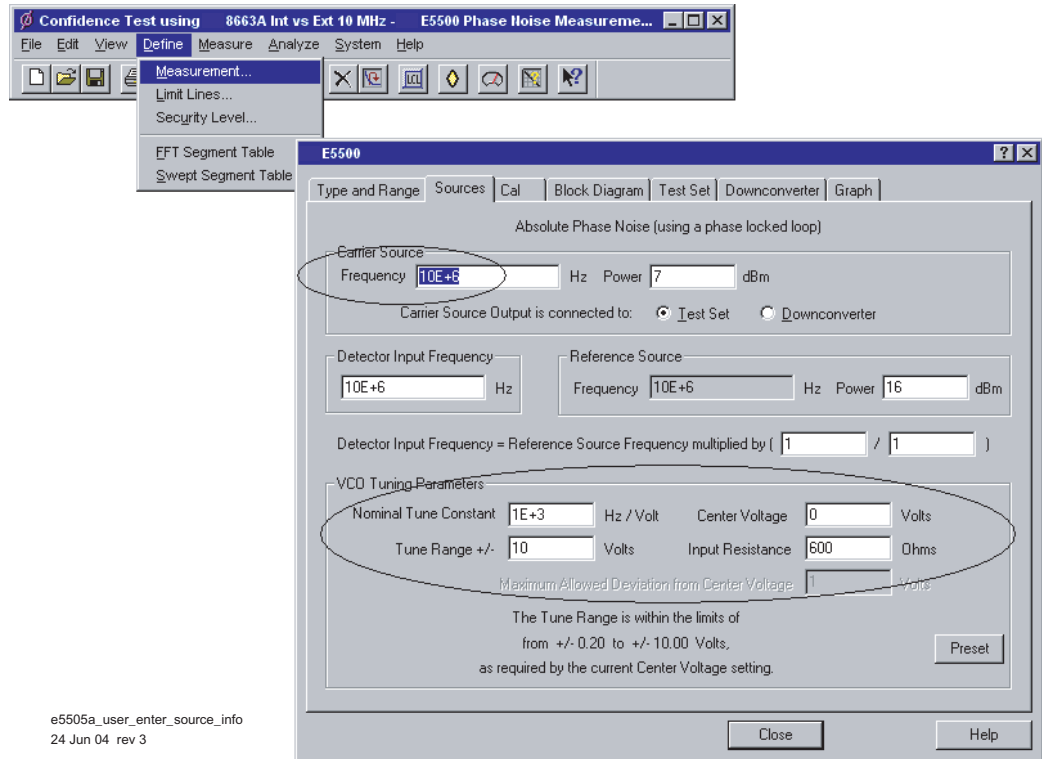

Figure 49 Sources tab in define measurement window
- 4** Using Figure 49 on page 86 as a guide, navigate to the **Sources** tab